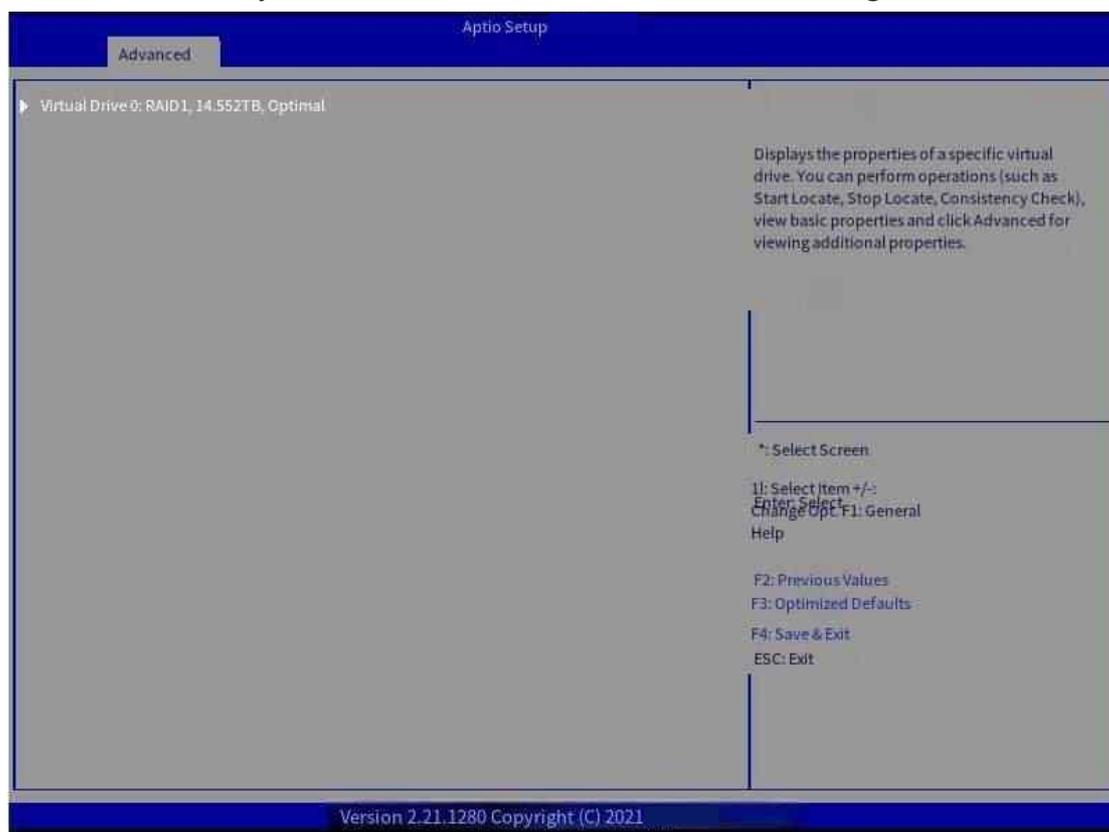

Figure 7-19 Viewing RAID properties
Step 5 The Virtual Drive Management screen is displayed. On the screen, you can view the RAID array created under the controller, as shown in Figure 7-19.